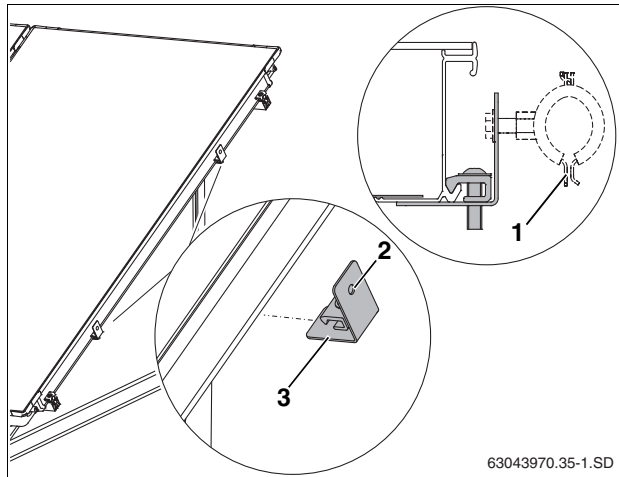

Fig. 56 Fastening holder to the collector frame
We recommend commercially available hose clamps (Fig. 56, [1]) attached to the M8 thread on the bracket (Fig. 56, [2]).
- ▶ Place bracket (Fig. 56, [3]) onto collector frame and tighten with size 5 Allen wrench.